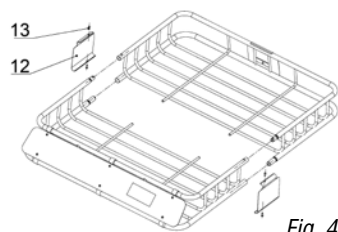

Fig. 4
6. Slide the front platform (#5) into the rear platform (#1) until all four parts of the frame are seated (Fig. 4).
7. Attach the side plates (#12) and secure each side with two M6*16 screws (#13) (Fig. 4)